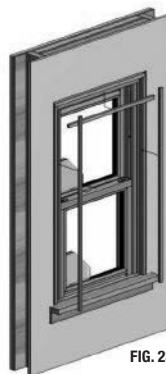

FIG. 23
- E) Once the foam is cured, re-apply interior stops. (Fig. 23)